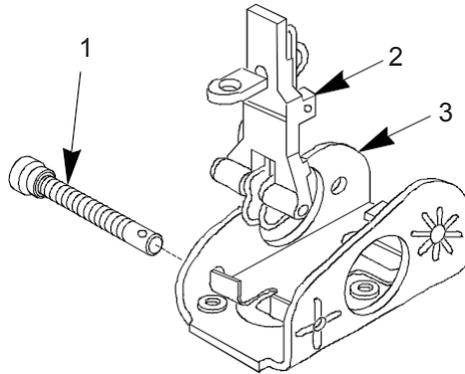

Figure 25. Machine Screw, Sight Leaf Assembly, Rear Sight Body
34. Visually inspect windage knob (Figure 25, Item 2) for burrs. Replace if damaged.
35. Unscrew machine screw (Figure 25, Item 1) and separate sight leaf assembly (Figure 25, Item 2) from rear sight body (Figure 25, Item 3).
36. Visually inspect machine screw (Figure 25 Item 1) for distorted threads or bent shaft. Replace if damaged.